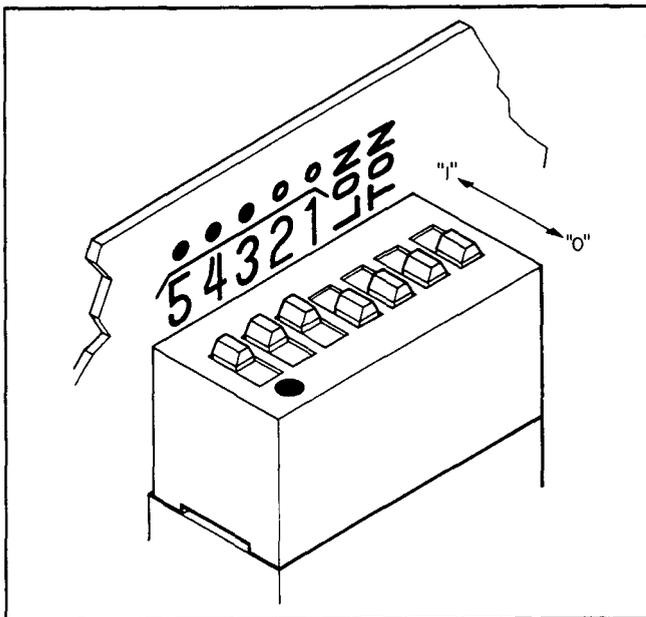

Figure 2-3. The HP-IB Address Switch Shown as Set by the Factory. The Address Shown is 11100 in Binary with Both Talk Only and Listen Only Off.
- e. Use a pencil to set the switches to the desired HP-IB address and Talk Only (TON) or Listen Only (LON) condition. The switch is illustrated in Figure 2-3. Facing the board, the left hand switch (marked with a "5") is the most significant address bit (A5 in Table 2-1). Setting a switch toward the printed circuit board places it in its "1" position. If the TON and LON switches are both set to "1", the Talk Only setting will override. If the address switches and the TON switch are all set to "1", the Distortion Analyzer will output one byte (the status byte) each measurement cycle. (Setting all switches to "1" defeats HP-IB operation.)